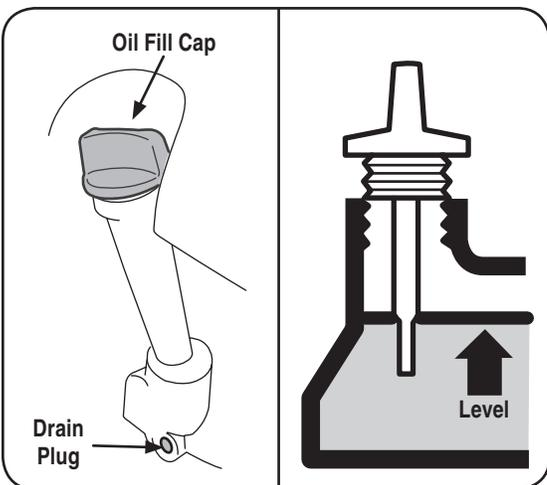

Figure 4-1
1. Remove oil fill cap and drain oil by either removing drain plug or turning mower on its side (air cleaner side up) and allowing oil to drain into a suitable container. See Figure 4-1.
3. Refill with the recommended oil (see page 5) and check the oil level. See Figure 4-1.